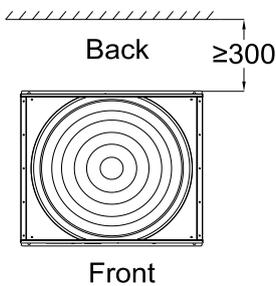

Figure 1
- Obstacles in the back only (see Figure 1)